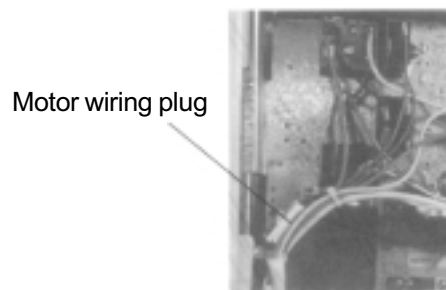

Figure 48
- ⑫ Disassemble the fan motor.
- Loosen the motor wiring connector, and put the motor wire through wiring hole as shown in figure 48.